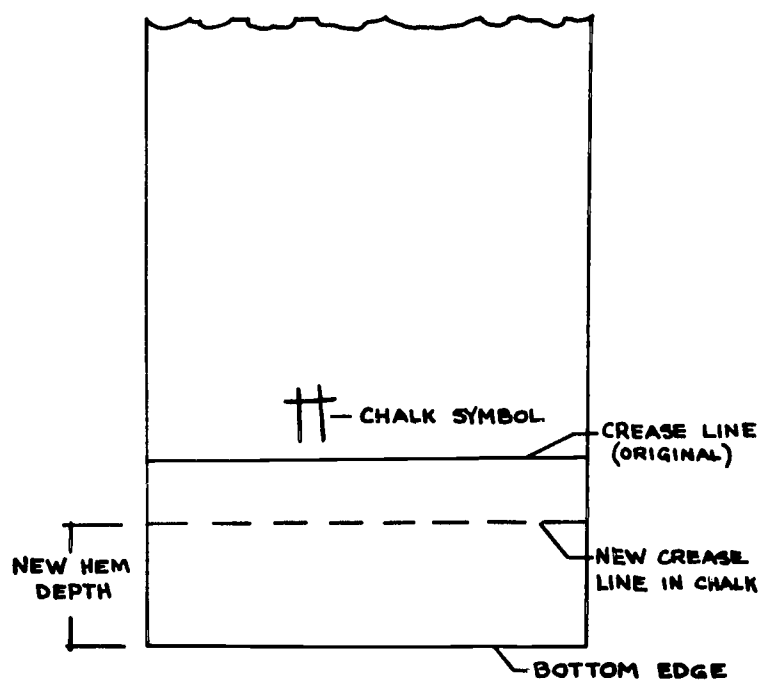

Figure 11.
7. To lengthen a skirt, measure the amount to be added and mark with chalk below the old crease line. The width of the new hem is now less than the width of the original hem. It is the distance from the new hem crease line to the bottom edge of the skirt (see Figure 11).